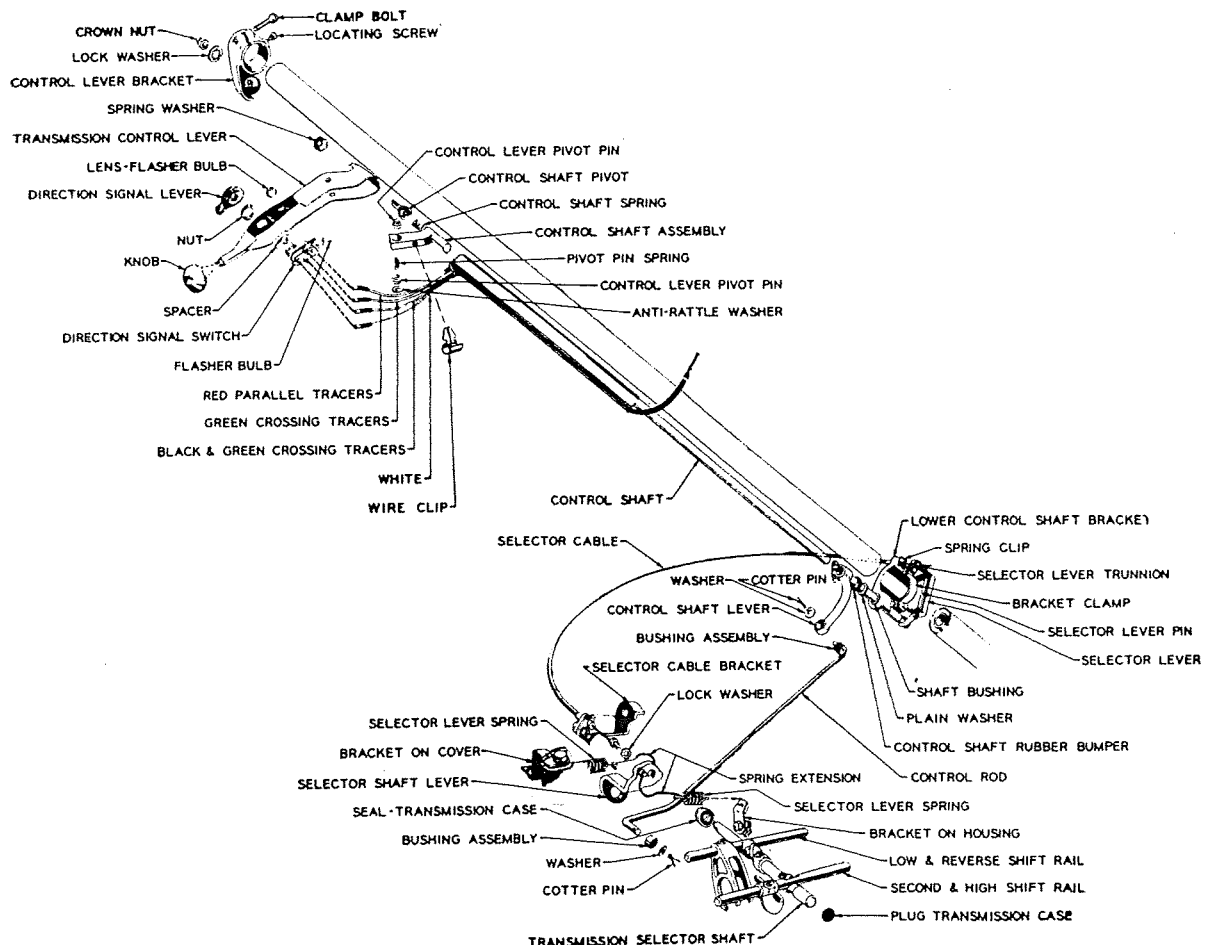

Fig. 1—Buick 1939
1939: (See Fig. 1.) (1)—Shift the hand control lever into second gear. (2)—Loosen the clamp bolt